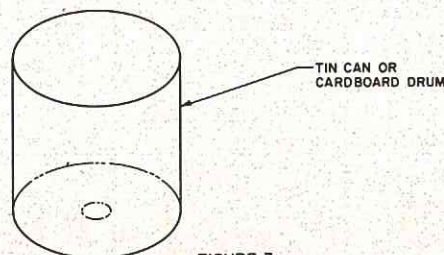

FIGURE 3
c) Find a round container (expedient — not the wife's best coffee cup!) of suitable diameter and depth to hold the spinner. Drill a 5/16" dia. hole in the center of the bottom. Fig. 3.